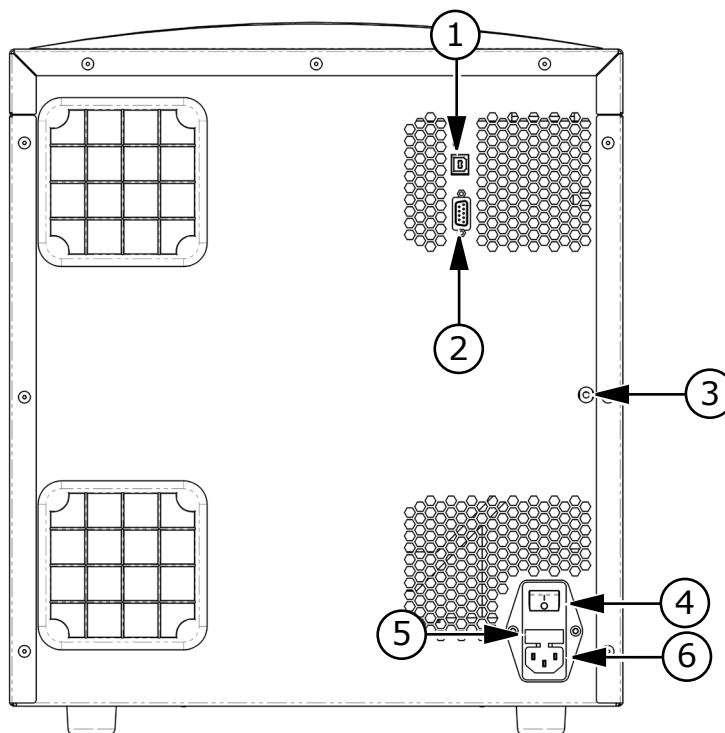

Figure 1-8 Power Switch and Connection Ports
- ♦ **9-pin Serial Cable:** Connect one end of the supplied 9-pin serial cable to the serial port on the computer and connect the other end of the cable to the serial port on the back of the instrument (Figure 1-8).
- ♦ **9-Pin Serial to USB Adapter Cable:** Connect the USB end of the supplied adapter cable to one of the USB ports on the computer and connect the 9-pin serial end of the cable to the serial port on the back of the instrument (Figure 1-8).
- ♦ **USB Cable:** Connect the flat thin end of the USB cable to one of the USB ports on the computer and connect the other end of the USB cable to the USB port on the back of the instrument (Figure 1-8).
4. Connect the power cable to the power port on the back of the instrument (Figure 1-8) and to a grounded electrical wall socket.
1. Using a flat-head screwdriver, pry off the small black cap on the back of the instrument along the right edge to access the quick-connect fitting (Figure 1-8). Save the cap for later use.